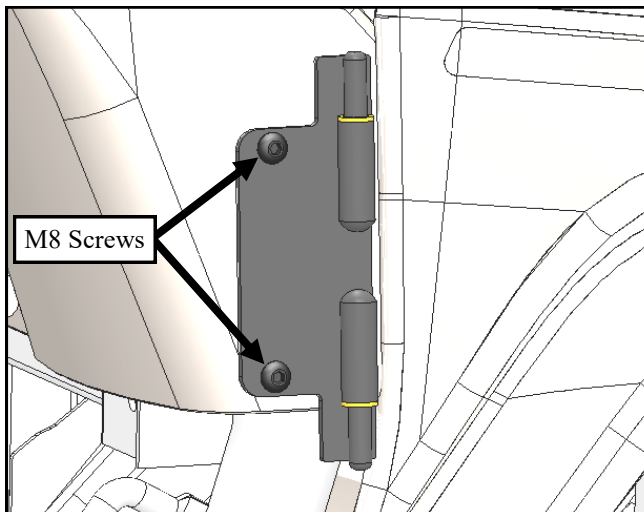

Fig. 2.7 (Hinge Attachment Isolated View)
2.7 Install front right door with the provided hardware. See **Fig 2.7**.